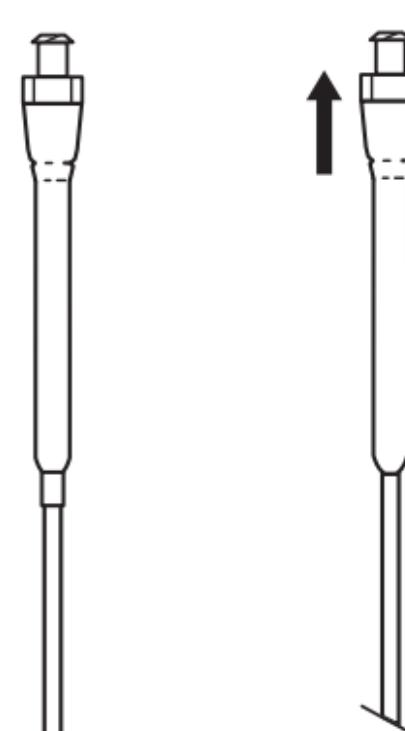

Fig. 4
- a. Stabilize the catheter near the locking sleeve with one hand, grasp the hub area of the locking sleeve and pull back. (**Fig. 4**)